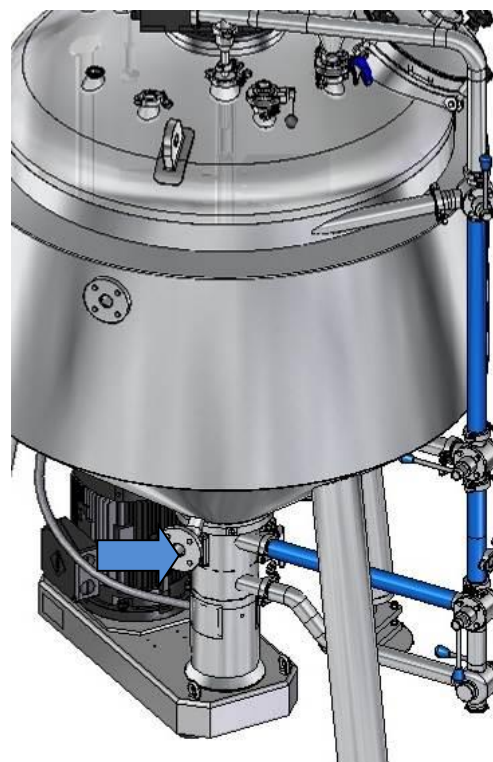

Fig 6.2. Circulation without upper shearing
- Circulation without upper shearing (Fig 6.2)